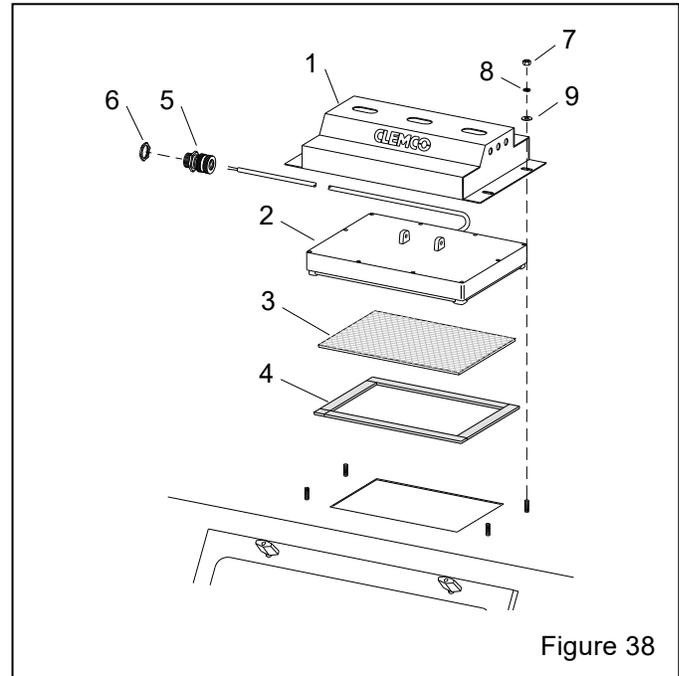

Figure 38
9.5 LED Light Assembly – Figure 38